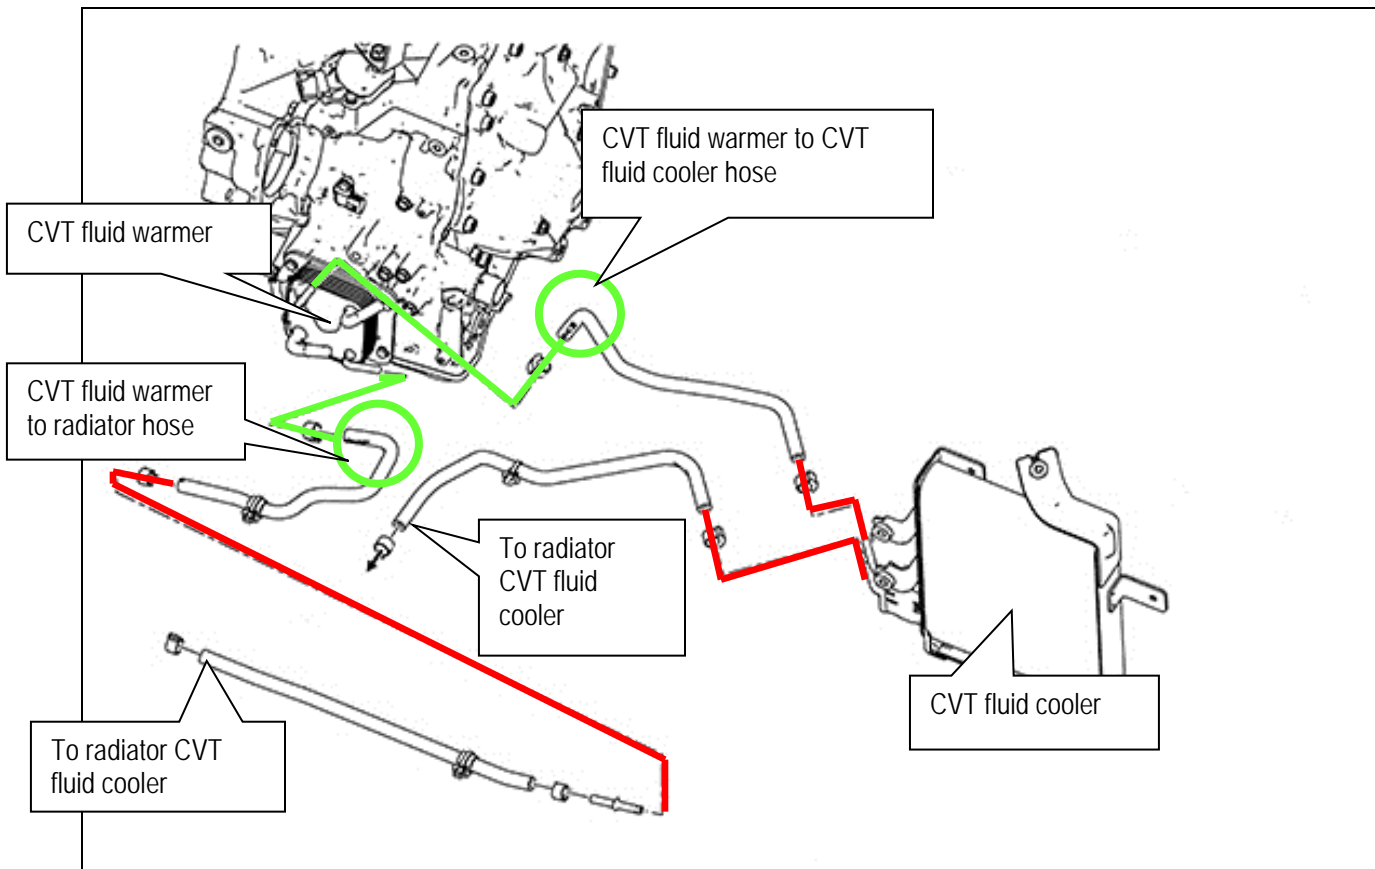

Figure 2
5. Disconnect the CVT fluid cooler inlet and outlet rubber hoses from the CVT oil warmer (Figure 2) and discard spring clamps.